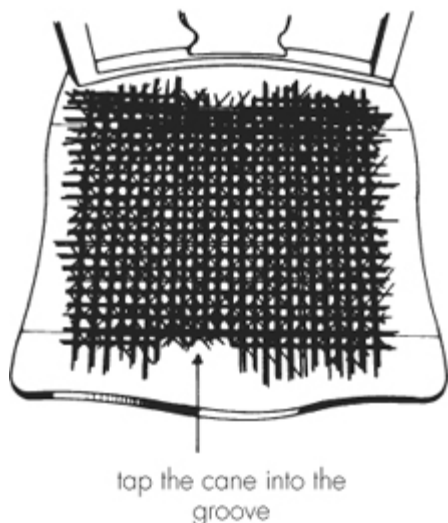

fig. 14
4. Place the pre-woven cane on the seat frame. Line up the horizontal canes with the straight edge of the front rail. If you have a rounded rail, line up the horizontal canes with the seat joints. See Figure 14.
5. Attach the cane to the seat. Start by tapping an area of cane about four inches long into the center of the back groove with your blunt wooden wedge and a hammer. Move to the front of the chair and straighten and pull the cane taut. Tap a four-inch area into the groove. Move to the back rail and tap a few more inches in place. Do the same to the front. Continue with this alternate method until the front and back rail are completed. Use the same method to attach the side rails. See Figure 14.